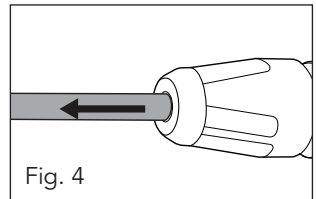

Fig. 4
2. With the accessory locking sleeve (2) released, check the SDS Max accessory has been locked into place by trying to pull it out. It should have only 10 - 12 mm movement, this is normal (Fig. 4).